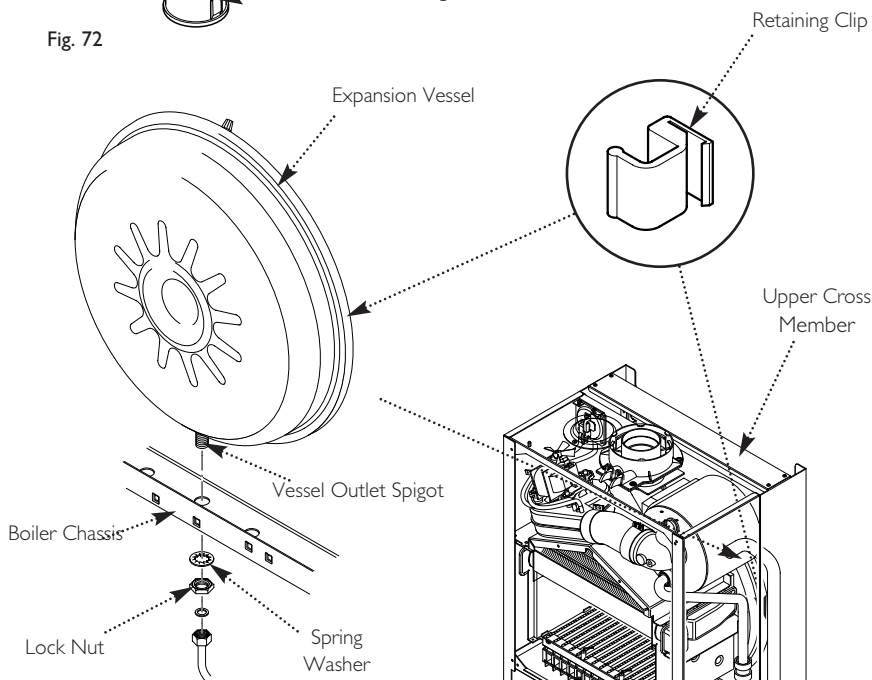

Fig. 73
14.16 Expansion Vessel (Fig. 73)